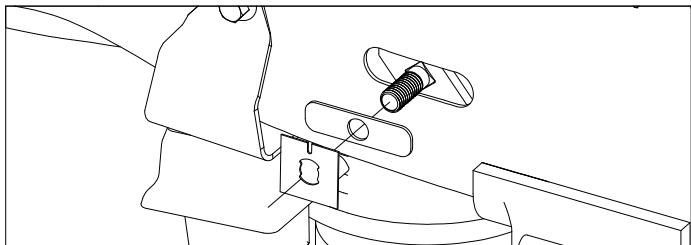

Figure A11: View looking into driver side wheel well.
15. **Install rear carriage bolt.** Pass the carriage bolt and locking strap into the frame through the forward mounting slot and pull the fish wire until the threaded end of the carriage bolt is through the locking strap and has passed out of the rear mounting slot. Install a rectangular frame spacer onto the carriage bolt and place it into the slot in the frame. Install a retainer onto the carriage bolt until it is snug, see Figure A11.